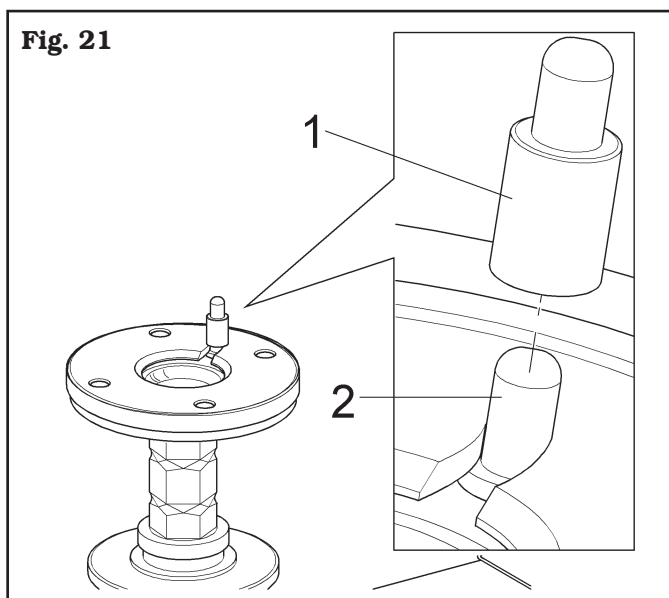

Fig. 21
3. If the wheel hub should be higher than the entrainer (Fig. 21 ref. 2), use the extension (Fig. 21 ref. 1) supplied on issue.